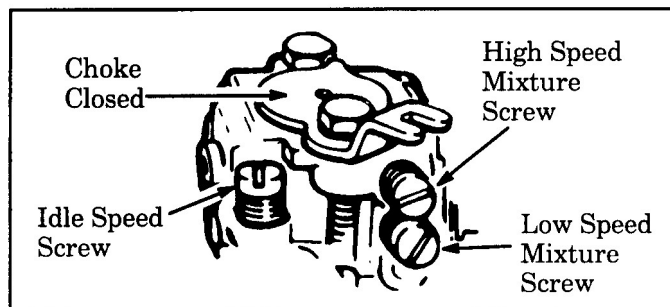

Figure 42
- Locate the three (3) carburetor adjusting screw openings to the right of the air filter cover. Figure 42.
- Start the engine and allow engine to idle three (3) minutes to warm up. *The engine must be at operating temperature for proper adjustments to be made.*